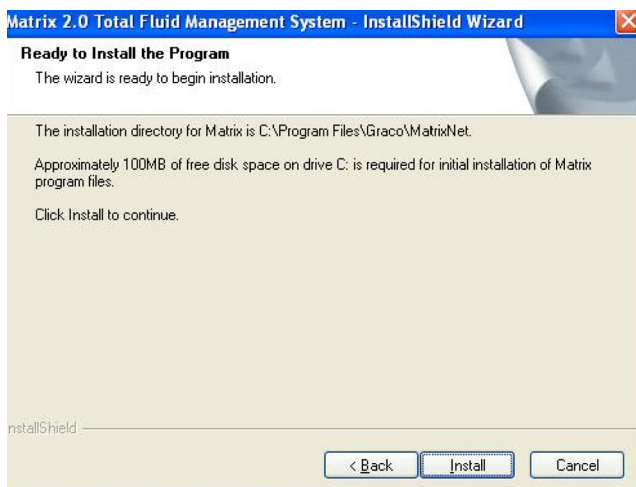

FIG. 32 Setup Path 2 - Ready to Install
- .Setup is ready to install Matrix application files (FIG. 32). Click **Install**.